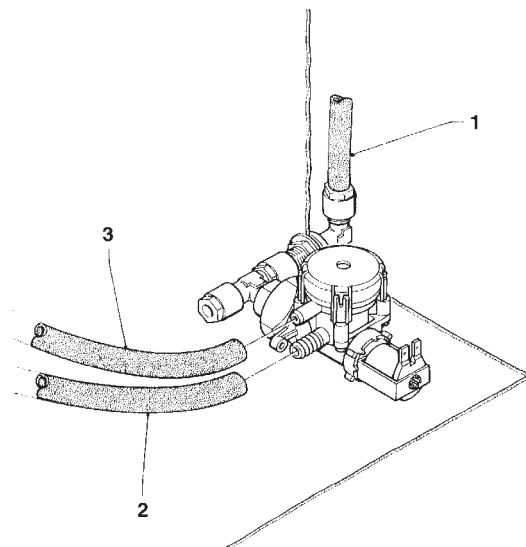

Fig. 14
The water inlet solenoid valve (see Fig. 14) is equipped with an overflow device which mechanically stops the water inlet if there is a malfunction in the solenoid valve or in the boiler water level control device.
- loosen the nut which secures the solenoid valve supply hose to relieve the water mains residual pressure and then tighten again (see Fig. 14);